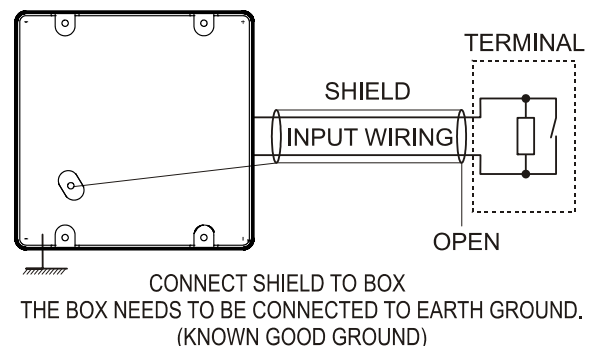

Figure 9 Input shielding
- 17. Tie the switch wiring shield to the local earth ground (at only one end, refer to Figure 9). For multiple switches on the same input, connect incoming and outgoing shields together in an acceptable means. Insulate shields, do not make any connections to the device or back box.